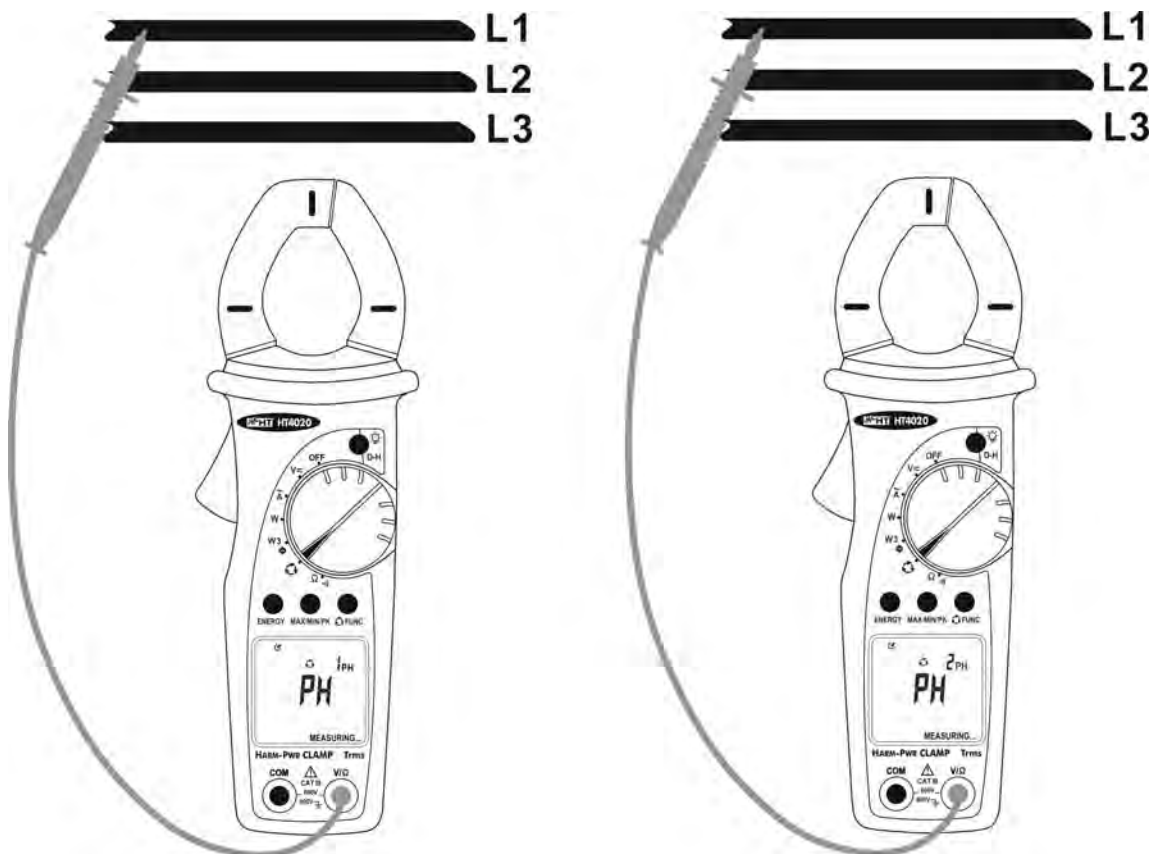

Fig. 14: Use of instrument for phase coincidence indication with 1 wire
3. Connect the red terminal to the L1 phase conductor of the first 3-phase system (see Fig. 14 – left part). If necessary use the rubber cup to insert red test lead
5. After about one second "MEASURING" appears on the display indicating that the instrument is ready to execute the first measurement (see Fig. 14 – left part)
8. Connect the test lead to the L1 phase of the second 3-phase system (see Fig. 14 – right part)